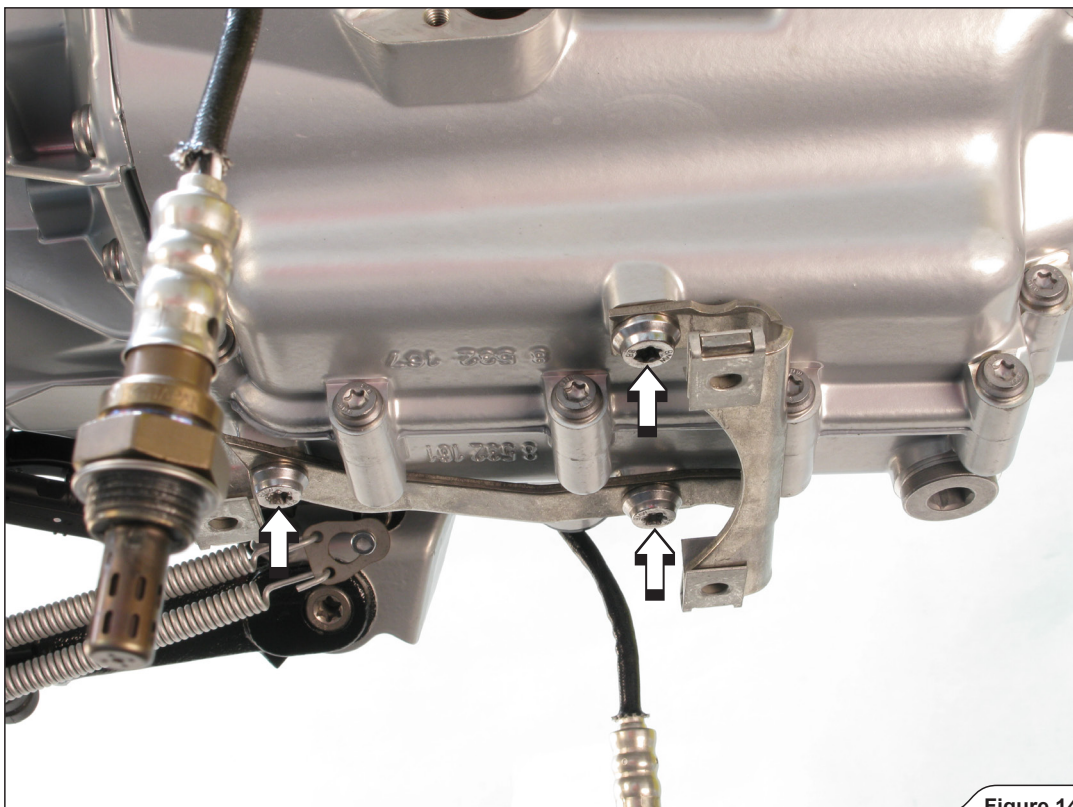

Figure 14
11. Unscrew the marked bolts and remove the skid plate's bracket off the motorcycle (Figure 14).